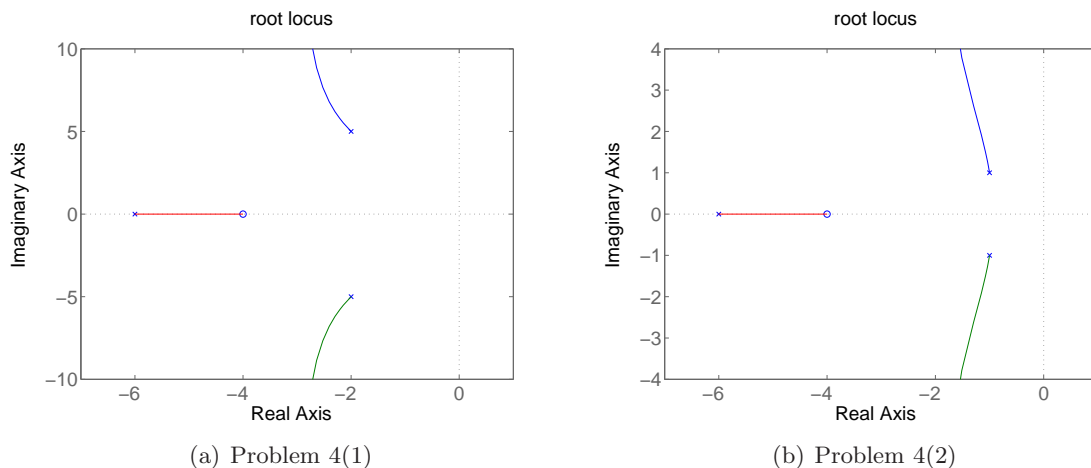

Figure 2:
Problem 4. 1. The root locus of L (that is, the roots of the equation $1 + kL(s) = 0$ for various values of k) are shown in Figure 2(a). What is $L(s)$?
2. Let $H = \frac{CP}{1+kCP}$ be a closed loop transfer function, where $CP = \frac{s+4}{(s+6)(s^2+2s+2)}$. The root locus of the closed loop poles of H are shown in Figure 2(b). Is it possible for H to have a damping ratio greater than 0.4472 and a natural frequency greater than 3.6 rad/sec? If so, for what value of k will make it happen, and if not, why not? (Hint: Answer this question by drawing the allowable region in the complex plane where the poles of H must lie to satisfy the requirements (on top of the root locus provided) and then checking if it is possible for H to have poles in that region. A ruler, protractor, and a drawing compass will help. Note that for higher order systems, natural frequency and damping ratio are computed from the least stable complex pole pair. You can answer this question by not using the root locus at all and just applying formulas, but doing it using the root locus will help you in the test.)